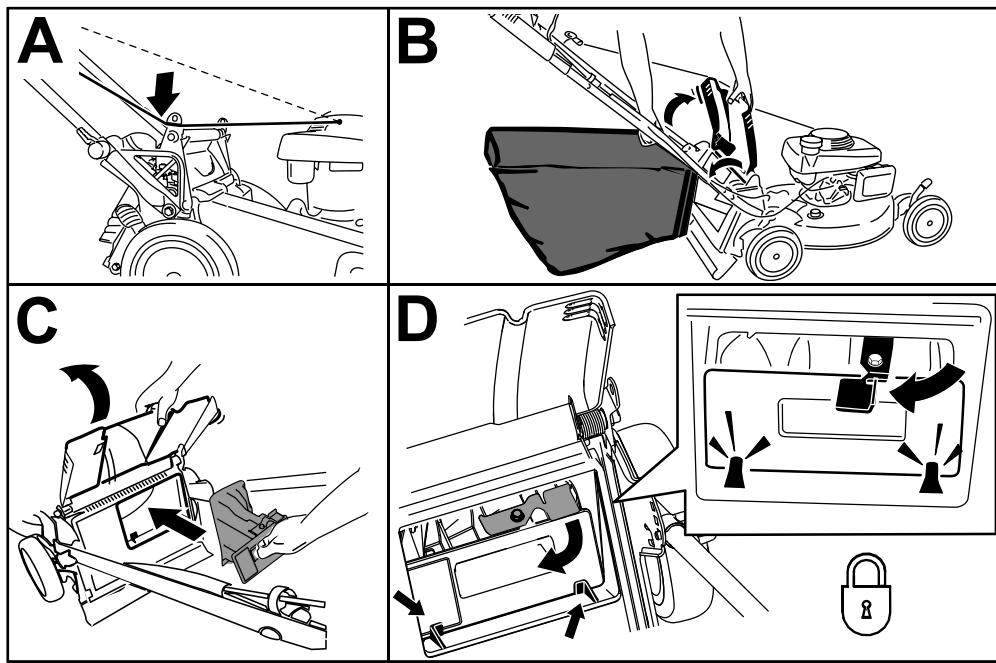

Figure 24
1. Route the starter rope around the lower-rope guide (A of Figure 24).
2. Raise and hold up the rear deflector and lift the grass bag up by the handle off the notches of the handle brackets (B of Figure 24).
3. Install the rear plug (C of Figure 24).
Important: Ensure that the rear plug is locked in place. To lock the plug, firmly push the plug in until it snaps into place behind the tabs, and rotate the lever on the plug to the left (D of Figure 24).